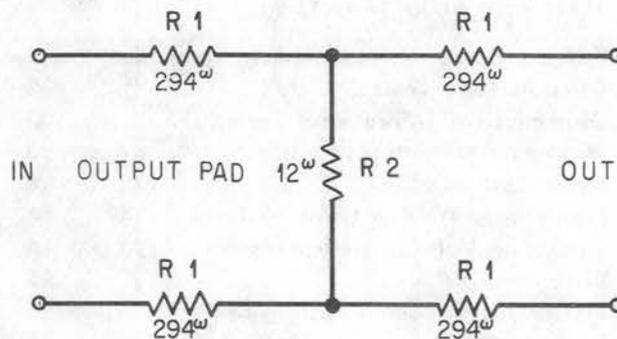

Fig. 1 — Suggested Output Pad Arrangement
2.08 Amplifier gain is measured between 600-ohm impedances with the amplifier operating at a level of +40 dbm at the 600-ohm output terminals. Fig. 1 shows a suggested arrangement of the output pad referred to in Paragraph 2.07. The pad must be capable of dissipating 10 watts of power. R1 is a 294-ohm 5-watt noninductive resistor and R2 is a 12-ohm 1-watt noninductive resistor. If available 18HY (294-ohm) and 18HN (12-ohm) resistors may be